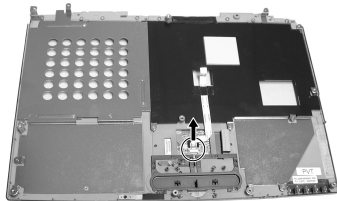

Figure 2-39 Disconnect the cable
3. Disconnect the cable. (Figure 2-39)